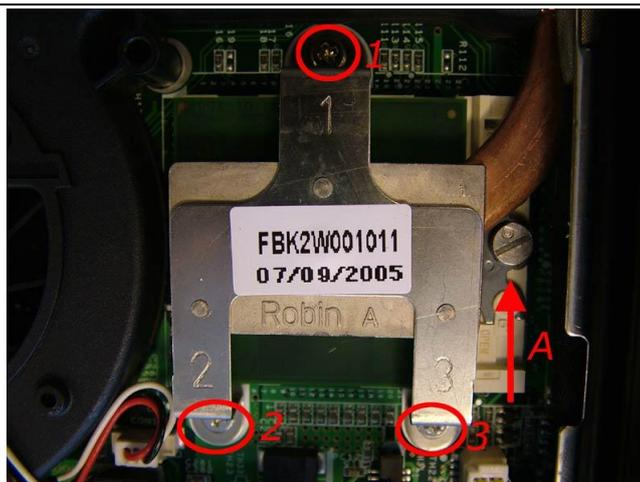

Fig. 13 CPU heat sink.
2. Remove the CPU heat sink: Loosen the 3 screws in indicated order as marked on the heat sink (1, 2, 3 on Fig. 13).
4. Turn the screw on top of the CPU socket halfway (marked **A** in Fig. 13) with a flat-bladed screwdriver; You should feel a *click* when the CPU is released.